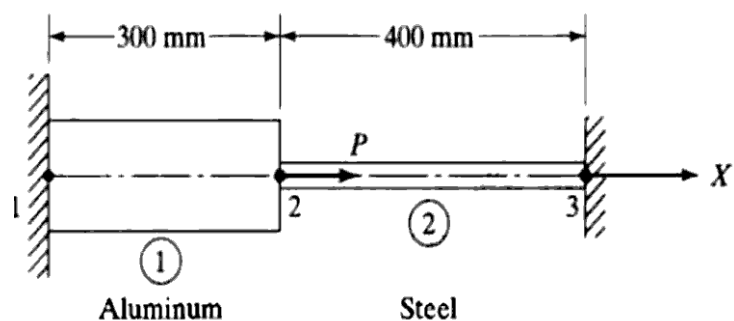

Figure 2
- (c) Consider the bar shown in Figure 2. An axial load $P = 200 \times 10^3$ N is applied as shown. Using the penalty approach for handling boundary conditions,